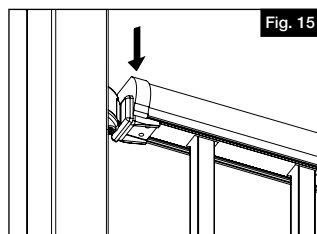

Fig. 15
- a. Press top rail bracket end covers onto each end of the top rail cap that was previously cut. Press down on the top rail cap to ensure that it fits snug onto the panel and that the top rail end bracket covers are being held in place by the line bracket (Fig. 15).